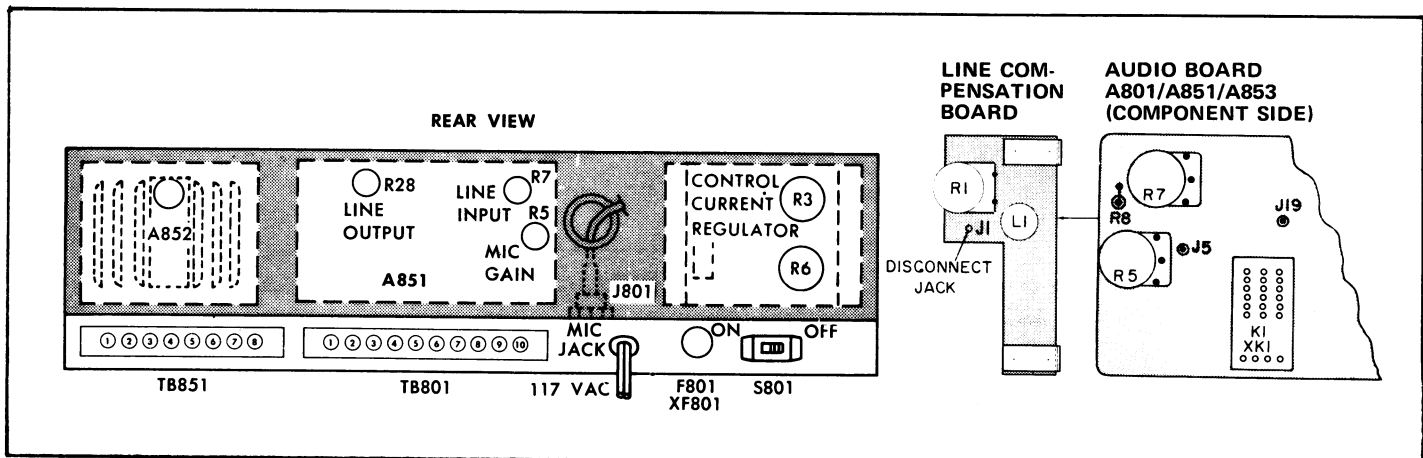

Figure 6. Center Section of Control Console
- c. Connect control pairs to terminals of TB2, TB3 and TB4 as shown in Figure 6. Observe the following line polarities:
TB801 AND TB851 (CENTER SECTION - SEE FIG. 6)
The following adjustments are made to controls on the center drawer assembly of the console turret. To gain access to the inside of this assembly, grasp the drawer frame and pull the drawer forward allowing it to rest on the desk top. Figure 6 shows the adjustable components involved in the adjustment as well as the jacks and terminal boards required for meter connections.
2. Apply a 300 millivolts RMS (−8.2 dBm) signal at 1000 Hz to the audio pair for the selected station (see Figure 6 for audio pair connections).